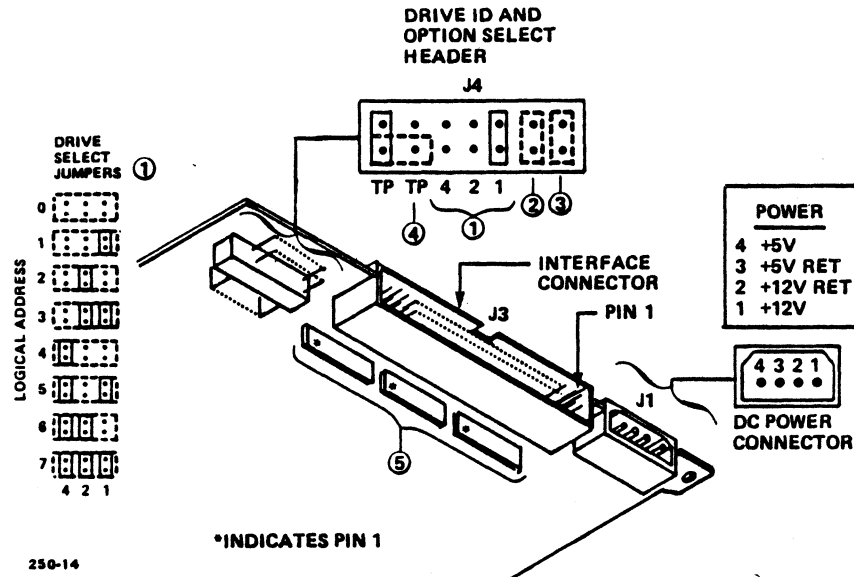

Figure 4-10. CDC 94181 Drive Configuration Settings
4. If the unit is not to be terminated, remove terminator resistor DIPs [5]. If installed, the "TP" jumper must be installed only in one of the two positions shown with dotted lines in Figure 4-10.